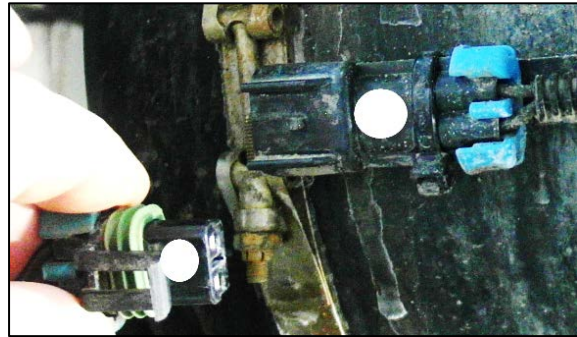

Figure 4
4. Mark the male and the female connectors with white marker and move the wiring away from the tank to protect it (Figure 4).